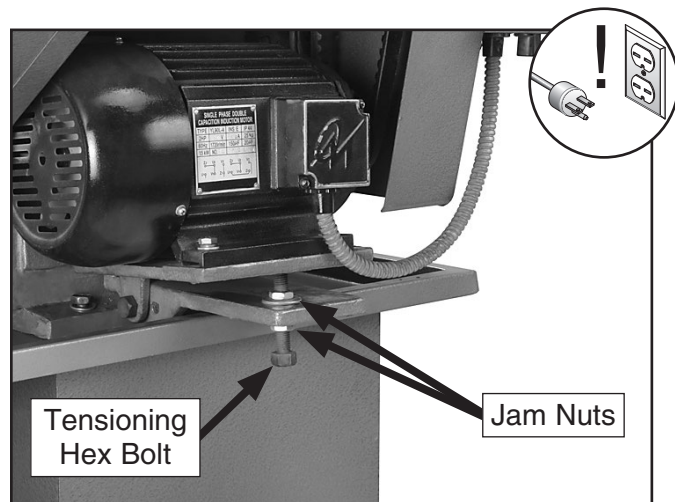

Figure 92. Motor V-belt tensioning hex bolt and jam nuts.
4. To adjust the motor V-belt tension, loosen the jam nuts shown in **Figure 92**, then adjust the tensioning hex bolt to raise or lower the motor.